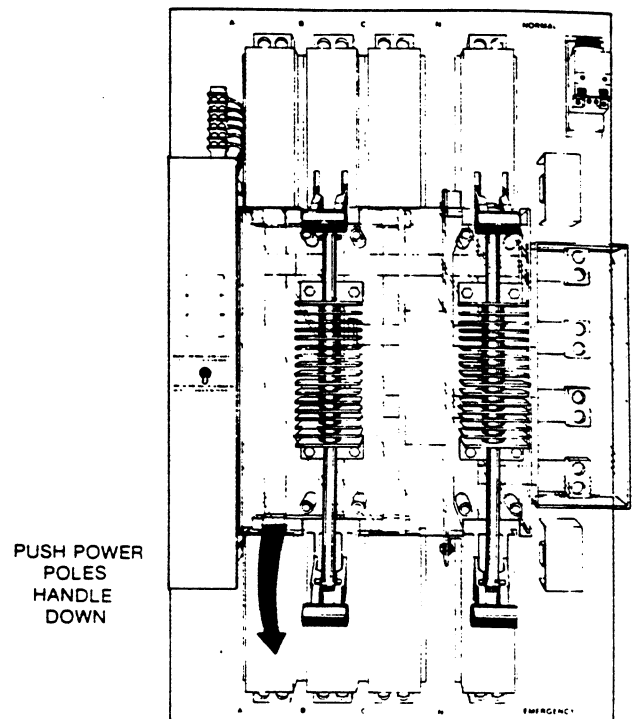

FIGURE 10.
4. Push the lower power pole handle down, as in Figure 10, connecting the load to the emergency power source. This completes the manual transfer switching sequence.